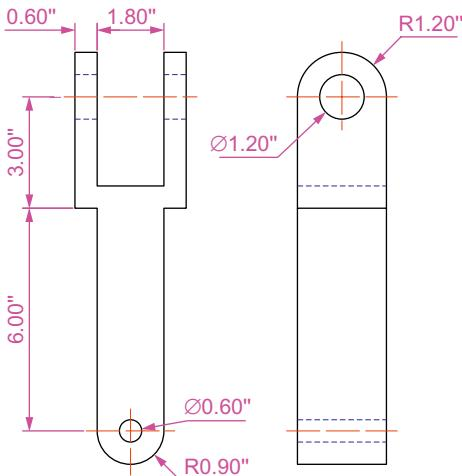
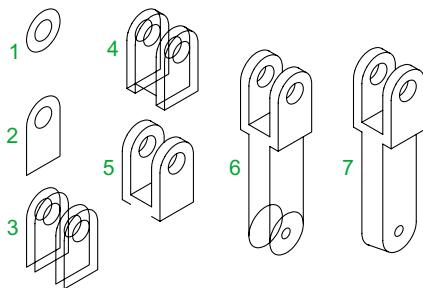
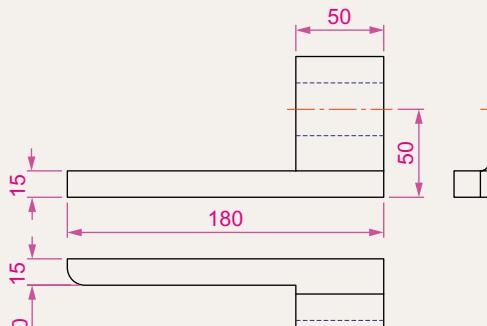

Fig. 7.23 Second example – isometric drawing – orthographic projection
Fig. 7.24 Second example – isometric drawing – stages in the construction
Fig. 7.26 Exercise 1
Second example – isometric drawing (Fig. 7.24)
Fig. 7.23 is an orthographic projection of the model of which the isometric drawing is to be constructed. **Fig. 7.24** shows the stages in its construction. The numbers refer to the items in the list below:
- Fig. 7.26** is a first angle orthographic projection of part of the fitment shown in the isometric drawing **Fig. 7.23**. Construct a three-view third angle orthographic projection of the part.